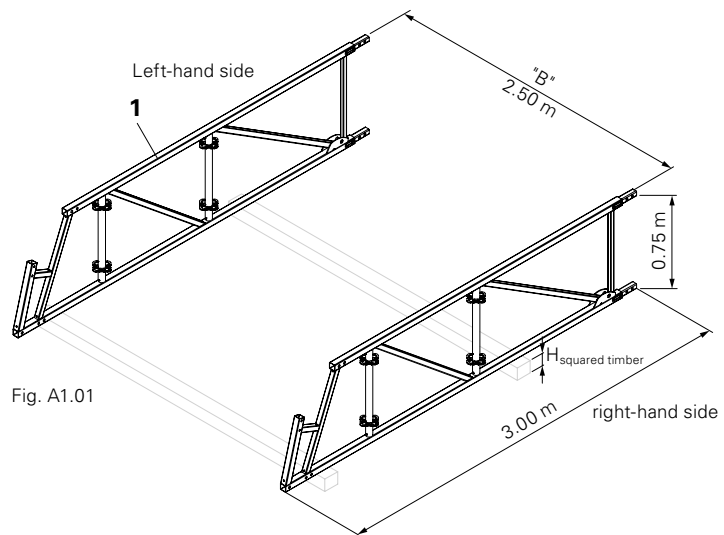

Fig. A1.01
- If a tension system is required, use squared timber as a means of support with height " $H_{\text{squared timber}}$ "  $\geq 16$  cm. (Fig. A1.01)
1. Place eave element (1) on two cross-wise positioned squared timbers.
- Squared timbers are used as support during assembly. (Fig. A1.01)